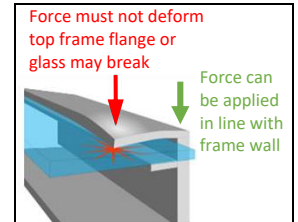

Figure 1a: Clamp Force Locations
- 2) Clamps:** Mount the module with the opposite clamps on the longer and/or shorter sides of the module. Installers should ensure the clamps are of sufficient strength to allow for the maximum design pressure of the module. Clamps are not provided by Maxeon. Clamps that secure to the top of the frame must not deform the top flange. Clamps must apply force collinear with the 'wall' of the module frame and not only to the top flange. Clamps or installation procedures that put excessive force on the top flange will deform the frame, void the module warranty and risk glass breakage. **Figure 1a** illustrates locations for top frame clamp force. When clamping to the module frame, torque should never exceed 132 in-lbs (15 Nm) to reduce chances of frame deformation and/or glass breakage. If the clamp manufacturer recommends a specific torque value which is lower than 132 in-lbs (15 Nm), the installer should use the clamp manufacturer's torque value. If the clamp manufacturer recommends a specific torque value which is higher than 132 in-lbs (15 Nm), the installer should contact the clamp manufacturer for acceptance of the 132 in-lbs (15 Nm) maximum torque value or to find alternative clamps. A calibrated torque wrench must be used. Mounting systems should be evaluated for compatibility before installing specially when the system is not using Clamps.
Clamps or installation procedures that put excessive force on the top flange will deform the frame, void the module warranty and risk glass breakage. **Figure 1a** illustrates locations for top frame clamp force. When clamping to the module frame, torque should never exceed 132 in-lbs (15 Nm) to reduce chances of frame deformation and/or glass breakage. If the clamp manufacturer recommends a specific torque value which is lower than 132 in-lbs (15 Nm), the installer should use the clamp manufacturer's torque value. If the clamp manufacturer recommends a specific torque value which is higher than 132 in-lbs (15 Nm), the installer should contact the clamp manufacturer for acceptance of the 132 in-lbs (15 Nm) maximum torque value or to find alternative clamps. A calibrated torque wrench must be used. Mounting systems should be evaluated for compatibility before installing specially when the system is not using Clamps.